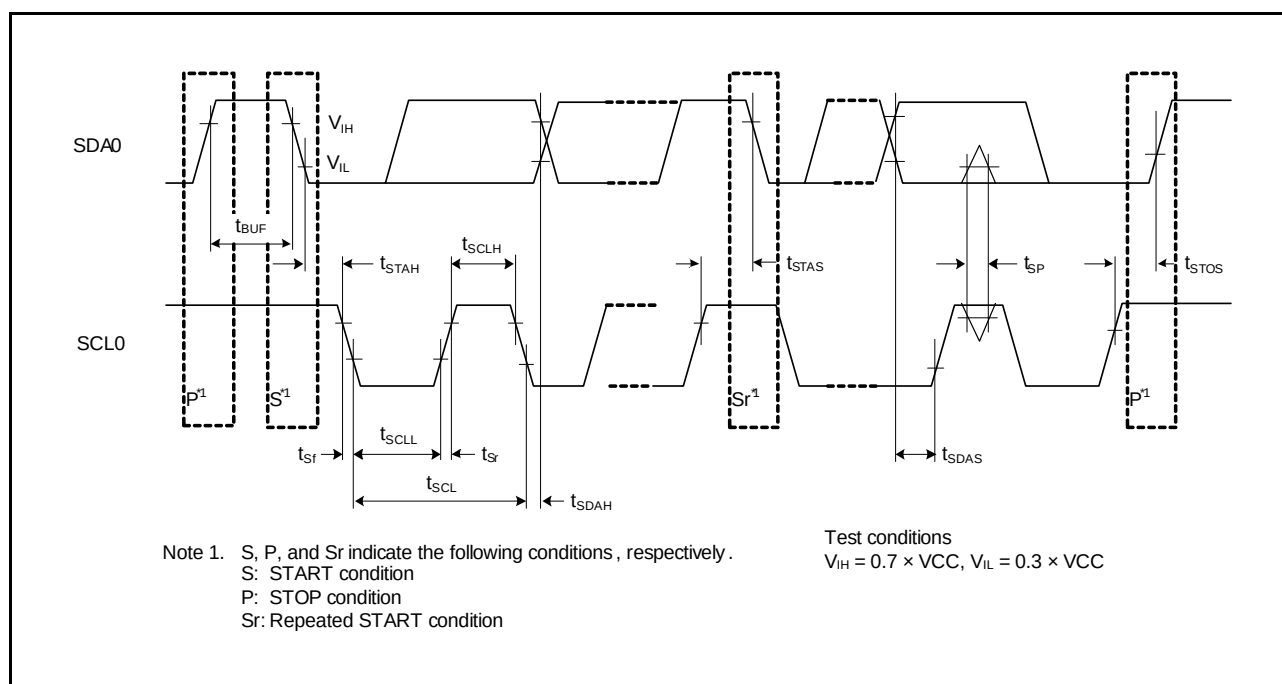

Figure 32.36 IIC Bus Interface Input/Output Timing
| RIIC(Standard mode, SMBus) | SCL cycle time                      | t SCL  | 6 (12) × t IICcyc + 1300 | —                           | ns   | Figure 32.36    |
| RIIC(Fast mode)            | SCL cycle time                      | t SCL  | 6 (12) × t IICcyc + 600  | —                           | ns   | Figure 32.36    |